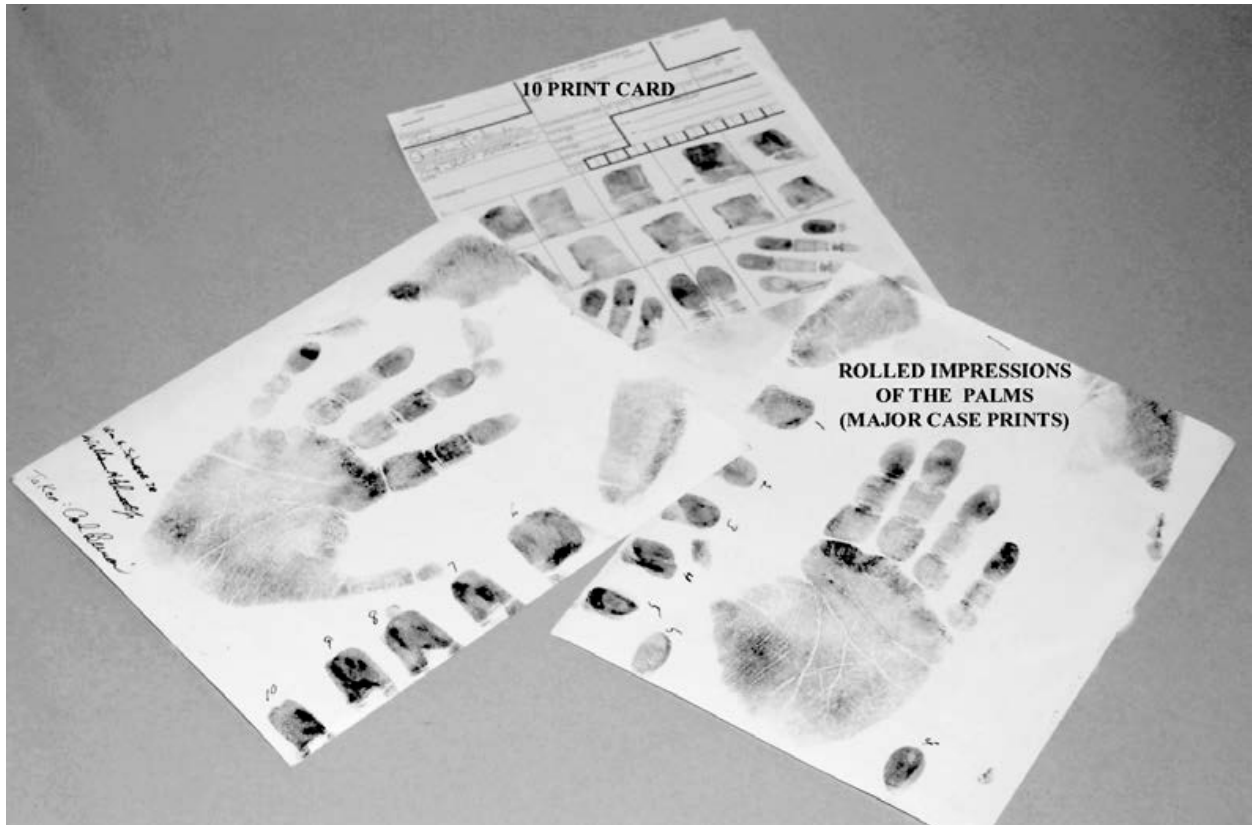

Figure 6 – Examples of Rolled Inked Print Standards (Fingerprints, Finger Joints, and Palm Prints)
- Major case print standards taken for latent print comparisons, in addition to a regular set of rolled fingerprint and both palm print standards, include the fingertips, side of the fingers, the lower joints of the fingers and blade side of both palms (refer to Figure 6)